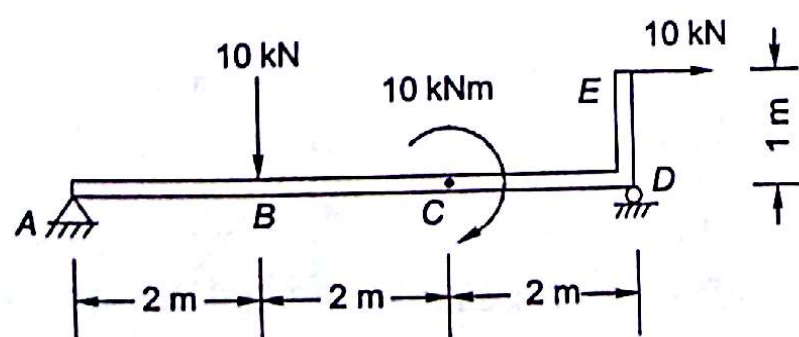

Fig. 2.23
- 2.3 A beam ABCDEF, 6 m long with vertical projection DE = 1 m, is subjected to forces and couples as shown in the Fig. 2.23. Determine the simplest resultant of this force and couple system.